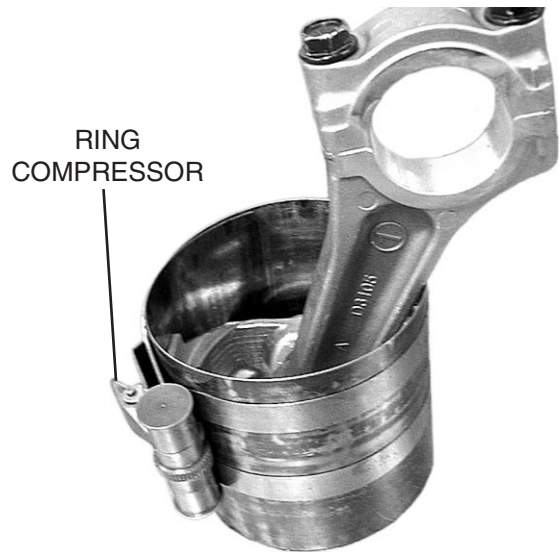

Figure 13-2. Compressing Rings
1. Oil piston rings, piston skirt, and compress rings with Ring Compressor, Figure 13-2.
- d. Then loosen ring compressor very slightly so that compressor can be rotated on piston skirt while holding connecting rod, Figure 13-2.